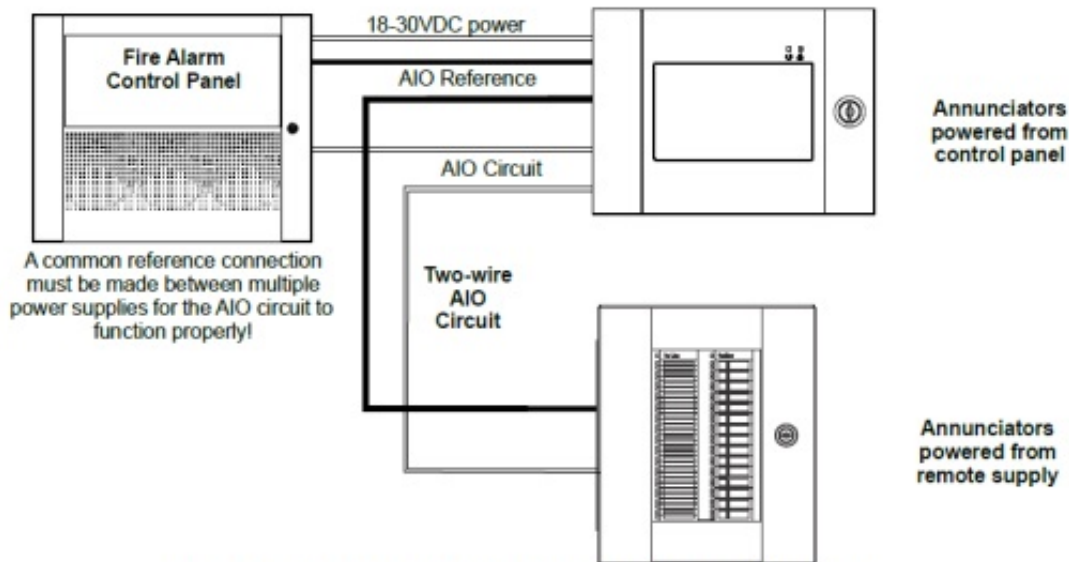

Figure 2.5 Using Multiple Power Supplies with the AIO Circuit
- If annunciators are to be mounted in a separate cabinet or powered by a remote power supply, see Figure 2.5, “Using Multiple Power Supplies with the AIO Circuit”.